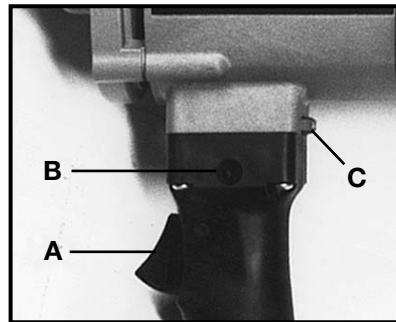

Fig. 4
A trigger switch (A) Fig. 4, with lock button (B) Fig. 4, is conveniently located in the machine handle. To start machine, depress switch trigger. To stop machine, release trigger. If it is desired to keep machine running without holding finger on trigger, depress trigger, push in on switch locking button in left side of handle, and while holding button in, release trigger. To release locking button, depress trigger and release.
Speed is adjusted by turning the thumbwheel, (C) Fig. 4. Thumbwheel position #1 provides the slowest operating speed (see chart) and position #6 the fastest. Speed may be changed while motor is running or while it is stopped.